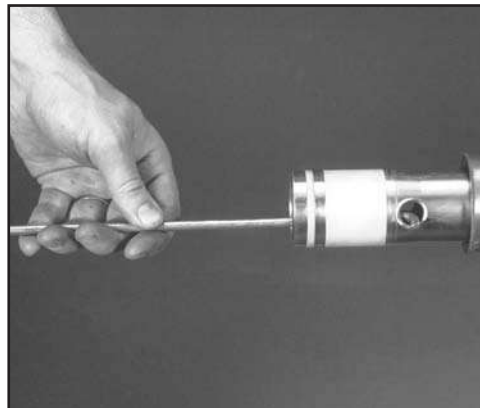

FIG. 71: REMOVE PISTON
5. Place piston extractor hook in the bore of the piston, and extract the piston out of the casing (see Fig. 71).